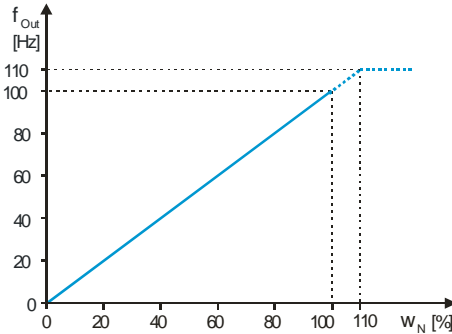

Figure 5-3
- The standard version maps the flow velocity w_N (from 0 to measuring range $w_{N,max}$) to a frequency range from 0 to 100 Hz (see Figure 5-3).